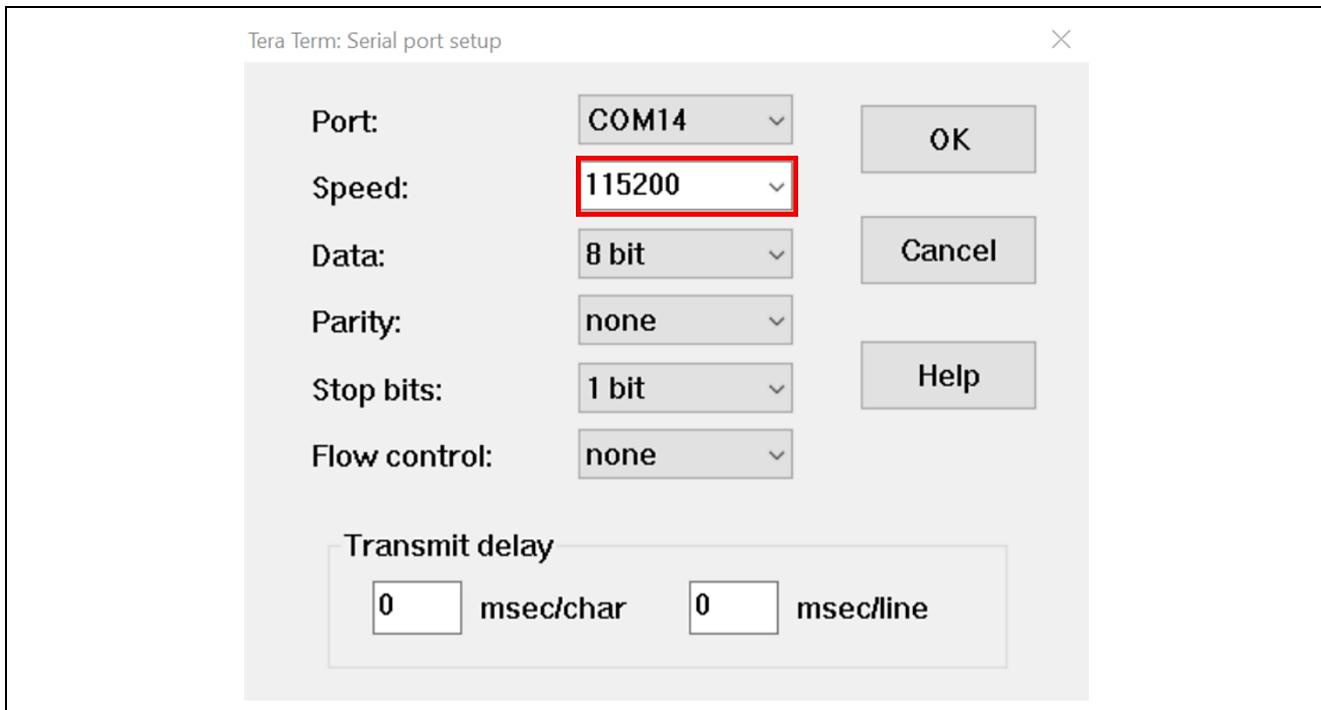

Figure 12. Select 115200 on the Speed Pulldown
3. Using the **Setup** menu pull-down, select **Serial port...** and ensure that the speed is set to 115200, as shown in **Figure 12**.